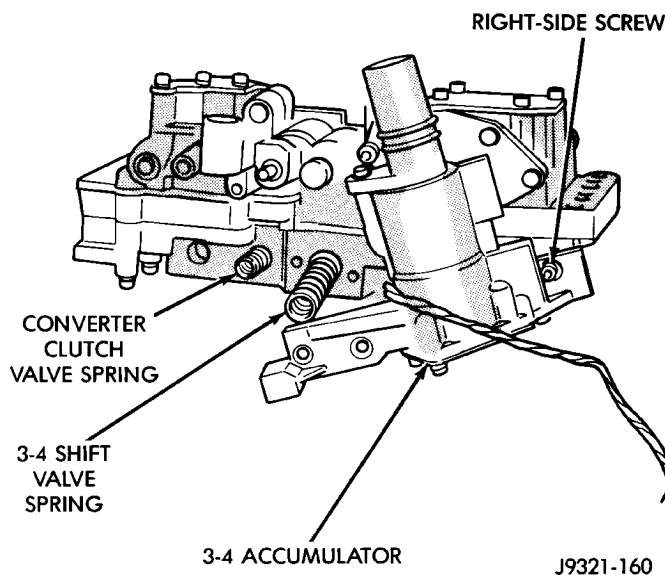

Fig. 89 Converter Clutch And 3-4 Shift Valve Springs
(1) Position converter clutch valve and 3-4 shift valve springs in housing (Fig. 89).
(2) Loosely attach accumulator housing with right-side screw (Fig. 89). Install only one screw at this time as accumulator must be free to pivot upward for ease of installation.
(3) Install 3-4 shift valve and spring.
(4) Install converter clutch timing valve and spring.